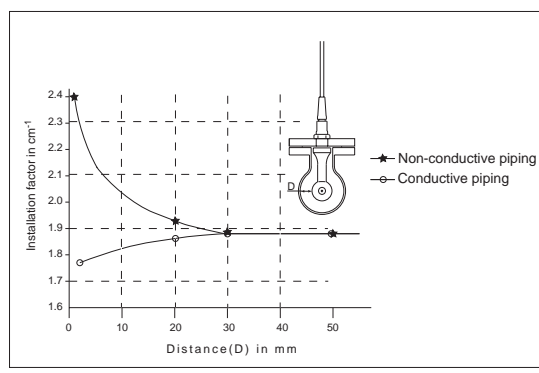

Figure 3 Installation Factor (Reference) for Pipe Mounting
-When a sensor is installed in long piping with a distance (D) between the sensor and piping, as shown in Figure 3:
The installation factor for pipe mounting (reference data when the nominal value is  $1.88 \text{ cm}^{-1}$ ) is shown in Figure 3. Divide the value indicated on the label of the sensor cable by 1.88 and then multiply the quotient by the value obtained from Figure 3. Enter the result.